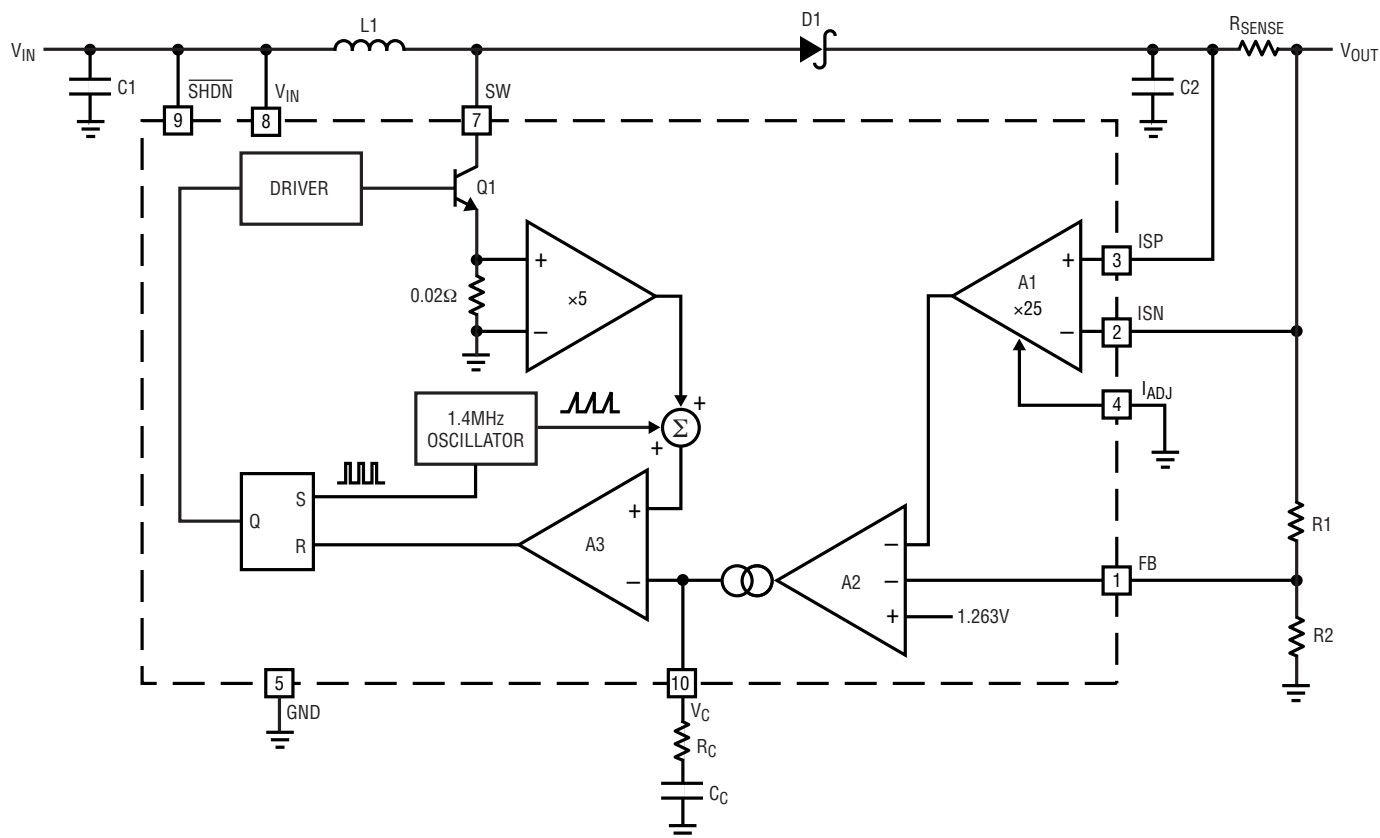

Figure 1. LT1618 Block Diagram
**FB (Pin 1/Pin 1):** Feedback Pin. Set the output voltage by selecting values for R1 and R2 (see Figure 1):
The LT1618 uses a constant frequency, current mode control scheme to provide excellent line and load regulation. Operation can be best understood by referring to the Block Diagram in Figure 1. At the start of each oscillator cycle, the SR latch is set, turning on power switch Q1. The signal at the noninverting input of PWM comparator A3 is a scaled-down version of the switch current (summed together with a portion of the oscillator ramp). When this signal reaches the level set by the output of error amplifier A2, comparator A3 resets the latch and turns off the power switch. In this manner, A2 sets the correct peak current level to keep the output in regulation. If the error amplifier's output increases, more current is delivered to the output; if it decreases, less current is delivered. A2 has two inverting inputs, one from the voltage feedback loop, and one from the current feedback loop. Whichever inverting
To set the output voltage, select the values of R1 and R2 (see Figure 1) according to the following equation.